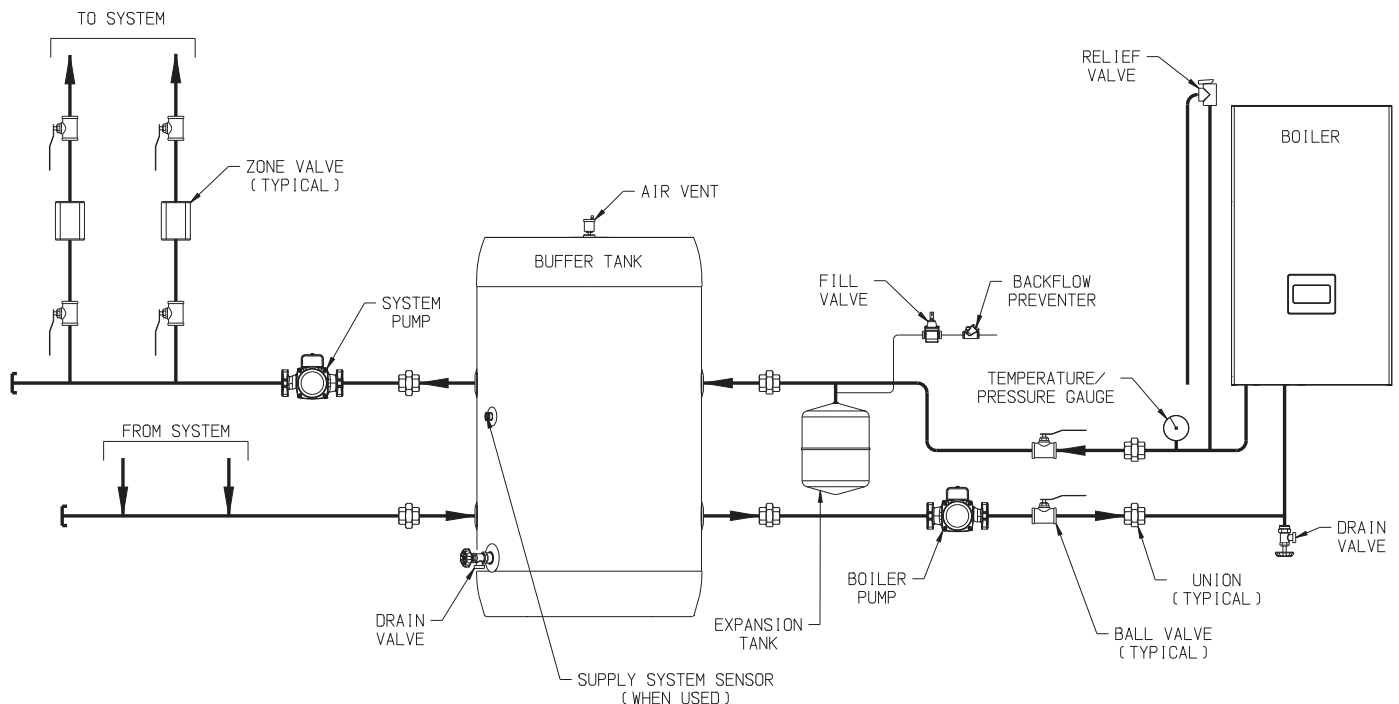

FIGURE 6.1: PIPING METHOD #1 - HEATING ONLY, NO INDIRECT WATER HEATER
- Figures 6.1 to 6.3 do not necessarily show all features that may be required by the boiler manufacturer and/or applicable codes.
- At least one automatic air vent is required in the system. In some cases, such as the piping system shown in Figure 6.1 this is the only automatic air vent that is required (although additional manual vents may be needed to adequately purge the system during initial fill). In cases where water is not always circulating through the buffer tank, a second automatic air vent and air separator is recommended in the common boiler loop piping.
Method #1: No indirect water heater used - Figure 6.1 shows recommended piping when there is no indirect water heater in the system.